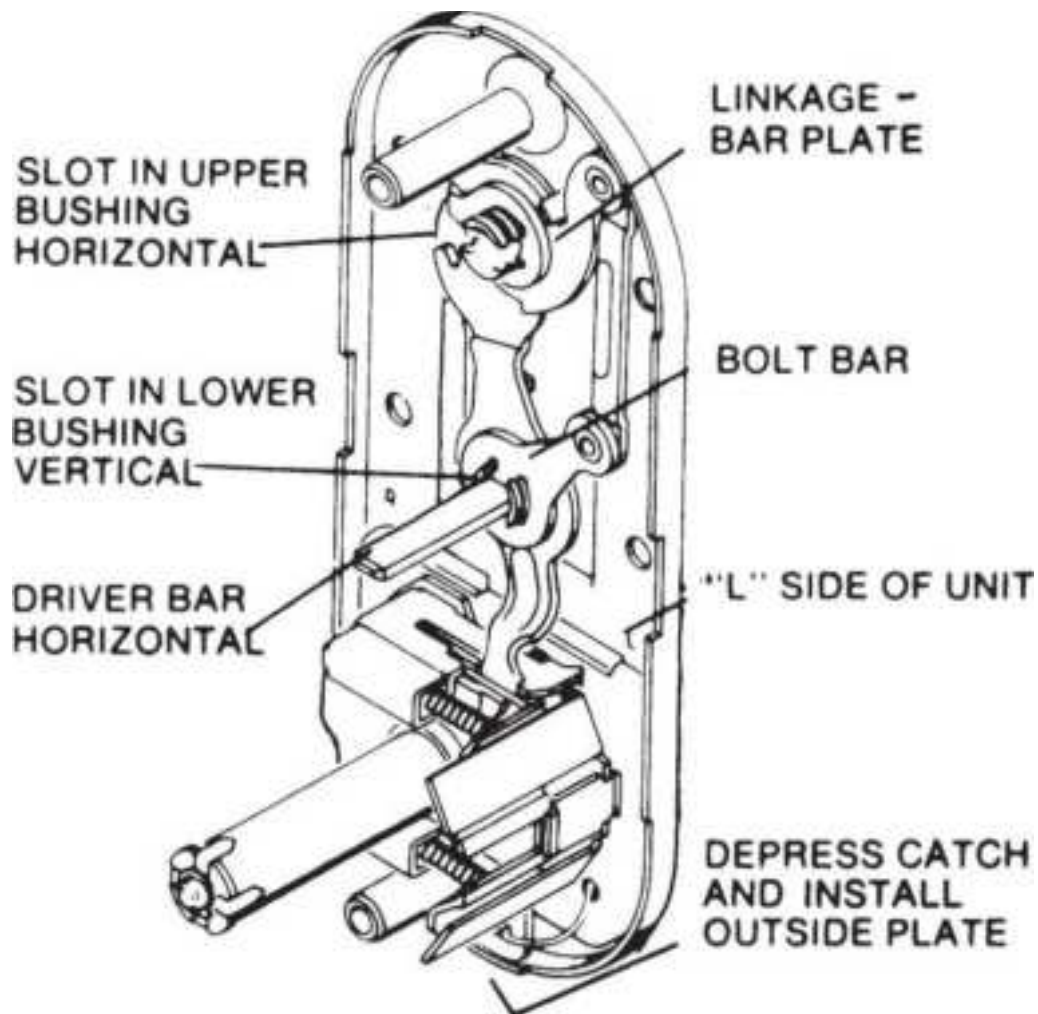

**Figure 13.91** Changing hand, Step 22.
22. Check your work (Fig. 13.91 ).